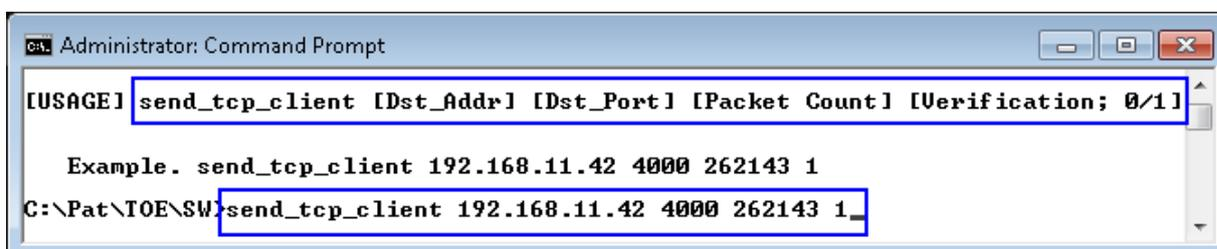

Figure 11 Run “send tcp client” application
- (2) Open command prompt, and run “send_tcp_client” application on PC, as shown in Figure 11. There are four input parameters for this application, i.e.